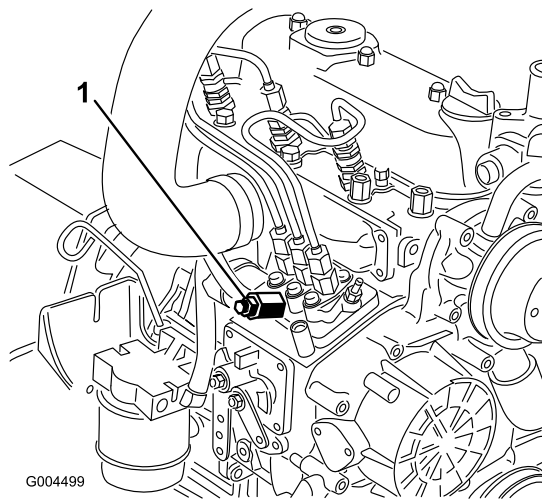

Figure 37
3. Place a rag under the air bleed screw on the fuel injection pump and open it (Figure 37).